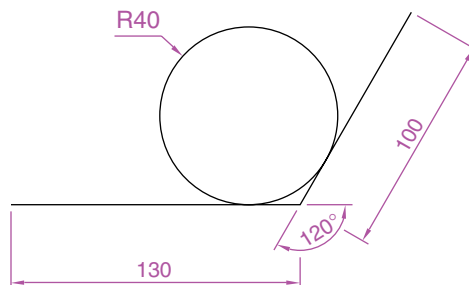

Fig. 2.34 Exercise 6
- Using the **Line** tool construct the two lines at the length and angle as given in Fig. 2.34. Then with the **Ttr** prompt of the **Circle** tool, add the circle as shown.